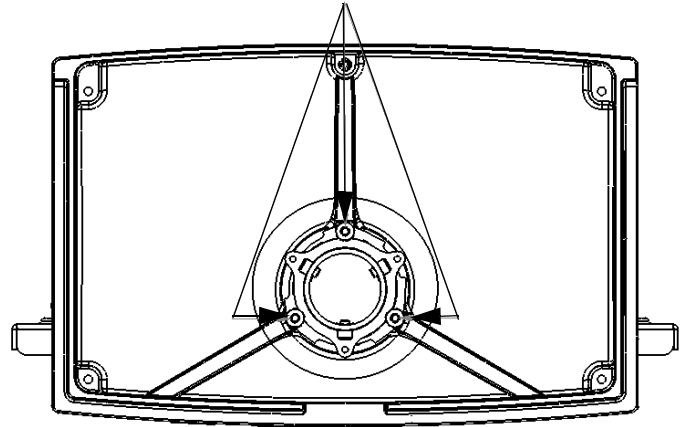

Figure 10. Tension Adjustment Screws
2. If tension adjustment is necessary, slightly tighten or loosen adjustment screws on stand assembly (see Figure 10).